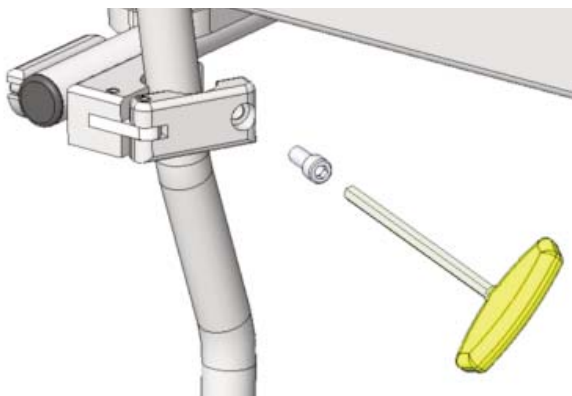

Figure 9
**B Cantilever Arms:** If desired, the cantilever arms can be removed from the backrest assembly for storage during traveling. This can be accomplished by unscrewing the socket head cap screws that attach the arms to the backrest posts using the 5/32" Allen wrench. Then remove the arm assemblies from the posts and re-insert the socket head cap screws into the arm assemblies, so they are not lost. To re-install the cantilever arms, simply follow the steps above in reverse (Refer to Figure 9).